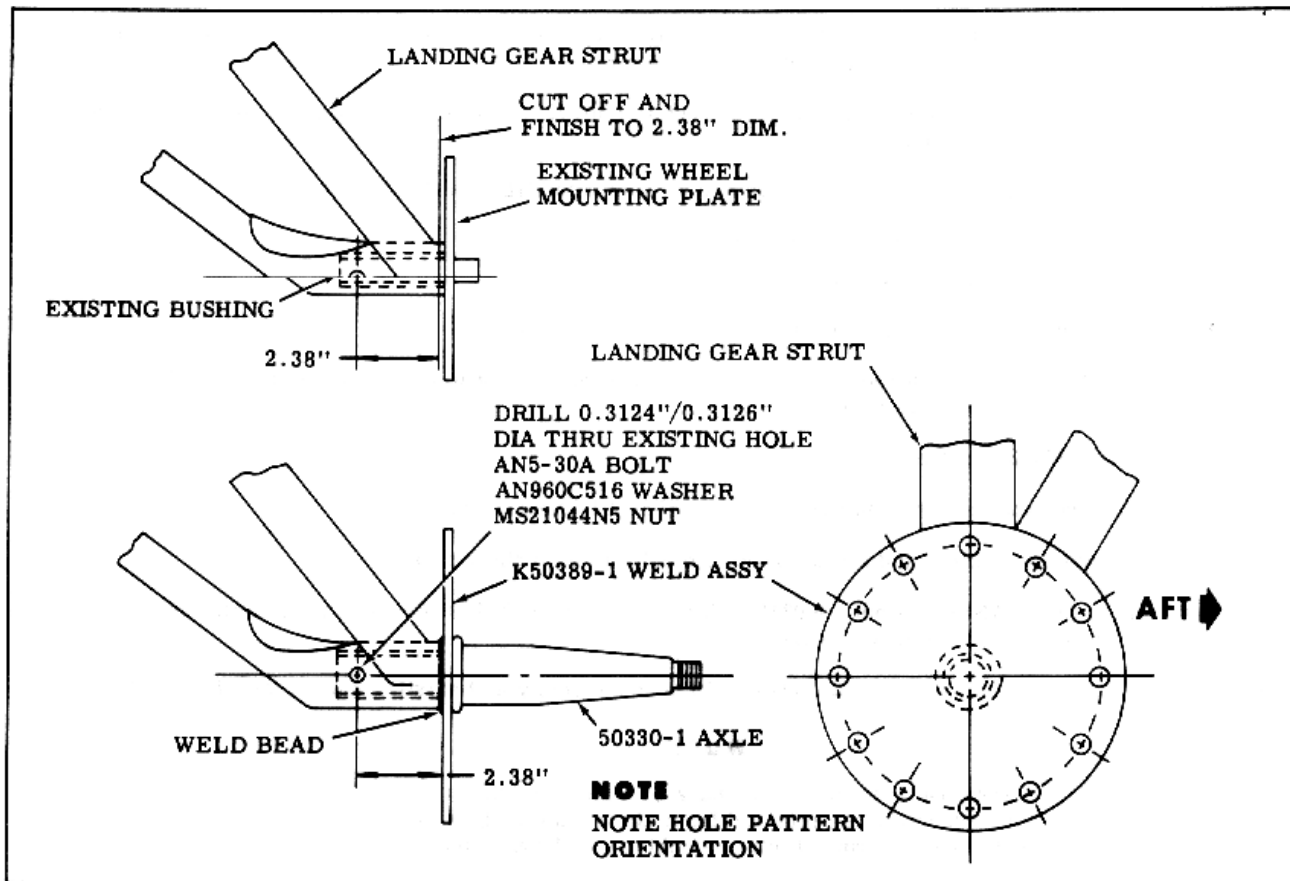

Figure 2.
7. Cut off existing wheel mounting plates and trim landing gear tripod hubs to dimensions shown in Figure 2.
9. Install K50389-1 weld assembly in landing gear tripod hub and weld (see Figure 2.).
10. Install 50330-1 axle in tripod hub and line drill a 0.3125 ( $\pm$  0.0001) inch diameter hole in existing tripod hub, axle and K50389-1 weld assembly (see Figure 2.).
11. Attach 50330-1 axle to tripod hub with AN5-30A bolt. AN960C516 washer and MS21044N5 nut. Torque bolt to 100-140 inch-pounds (see Figure 2.).